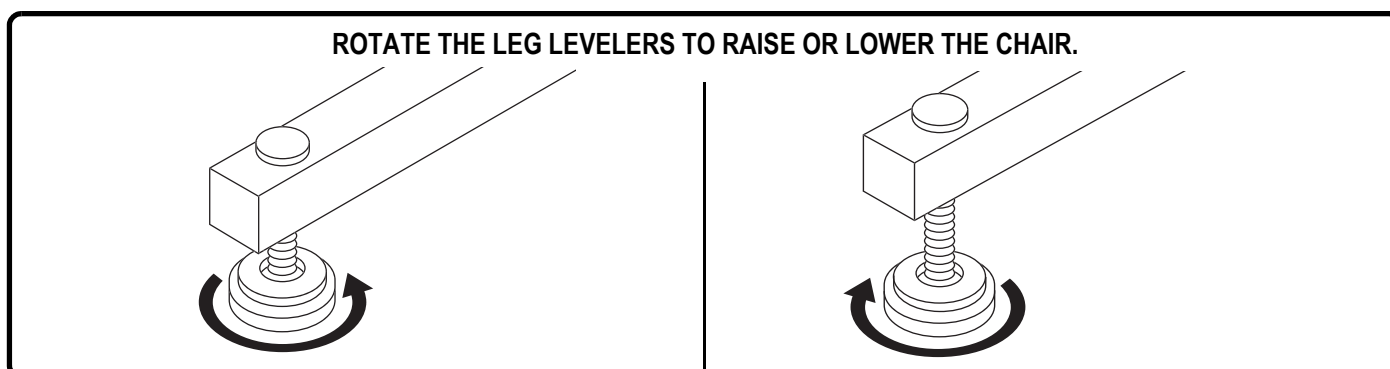

Figure 3.2 Leg Levelers
Leg Levelers: Manually rotate up or down in order to stabilise the chair before use (**Fig. 3.2**).
2. Adjust the leg levelers to stabilise the lift chair (**Fig. 3.2**).